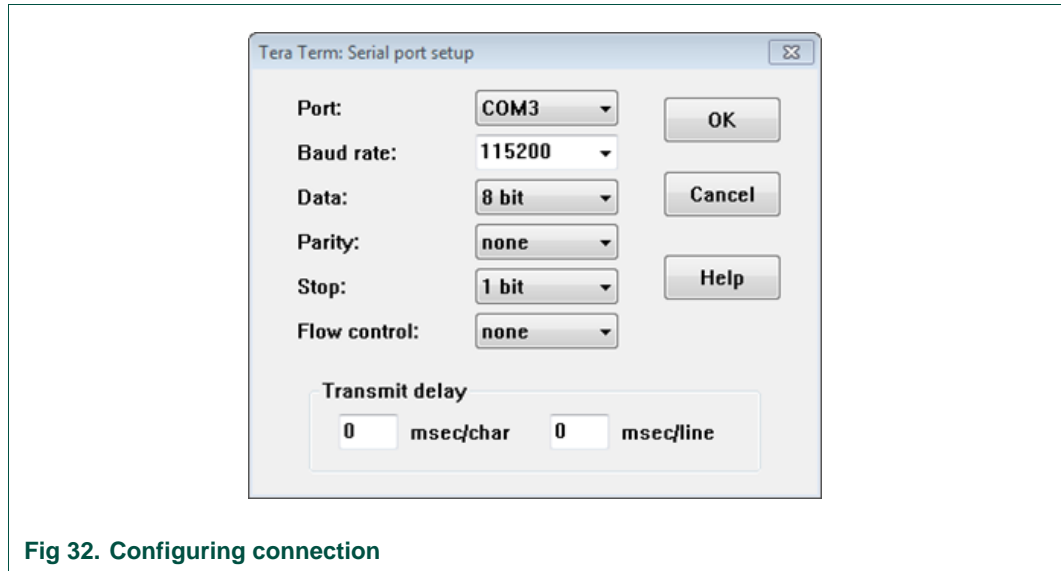

Fig 32. Configuring connection
4. Configure the connection with the settings shown in Fig 32.